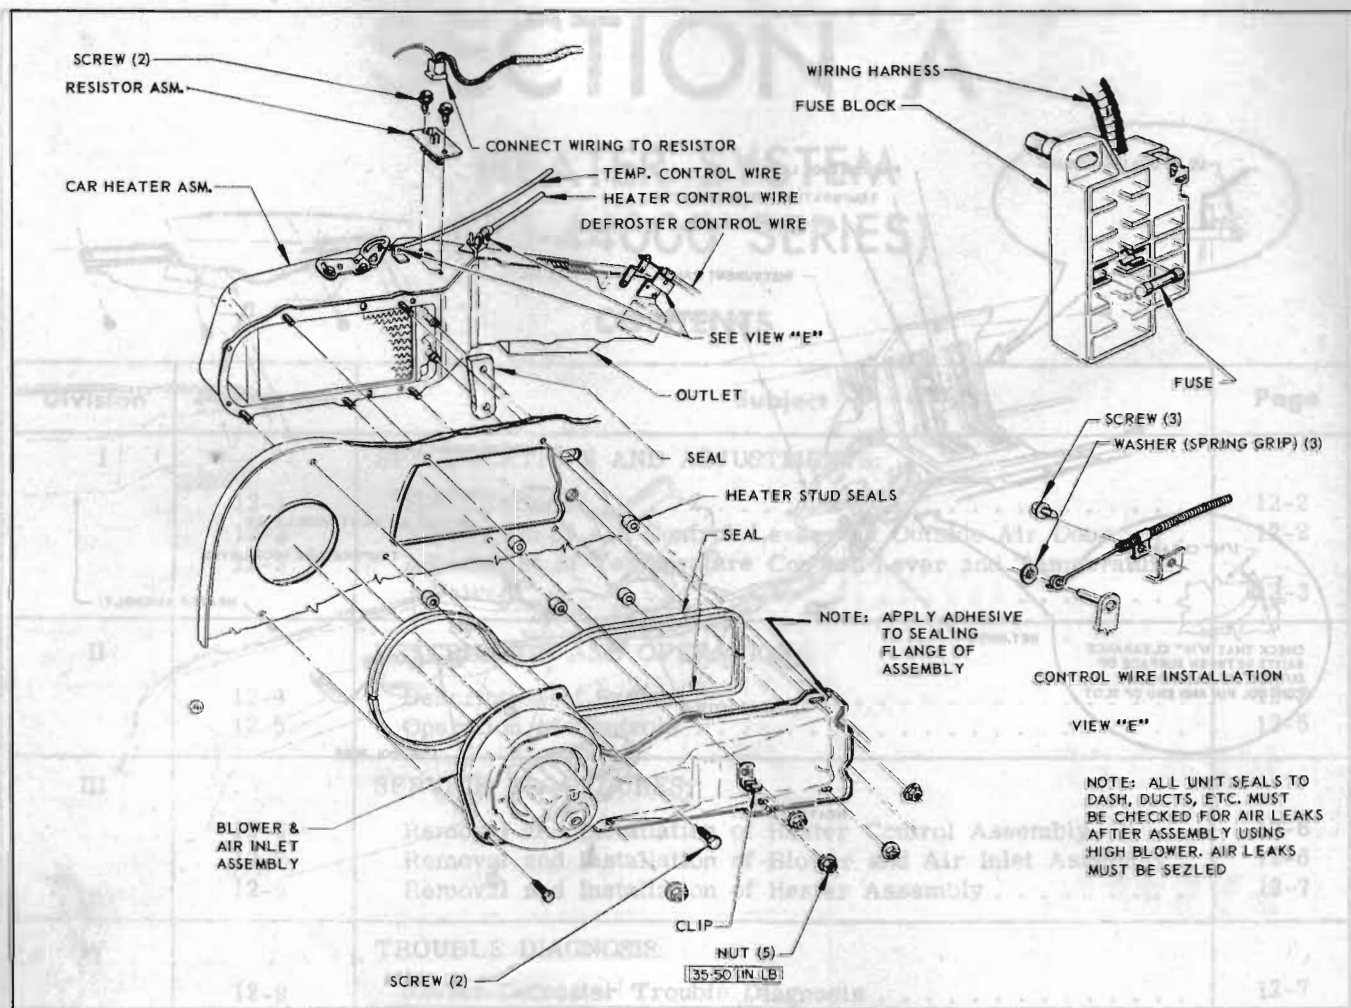

Figure 12-2—Heater Installation (43000-44000 Series)
The heater system is an air-mix type system in which outside air is heated and then mixed in varying amounts with cooler outside air to attain the desired air temperature. The system consists basically of three parts: (1) the blower and air inlet assembly, (2) the heater assembly and (3) the heater control assembly (see Figure 12-2). The operation of the system is as follows:
2. Remove five nuts and two screws securing blower and air inlet assembly to cowl (see Figure 12-2), disconnect blower motor wire and take off assembly.